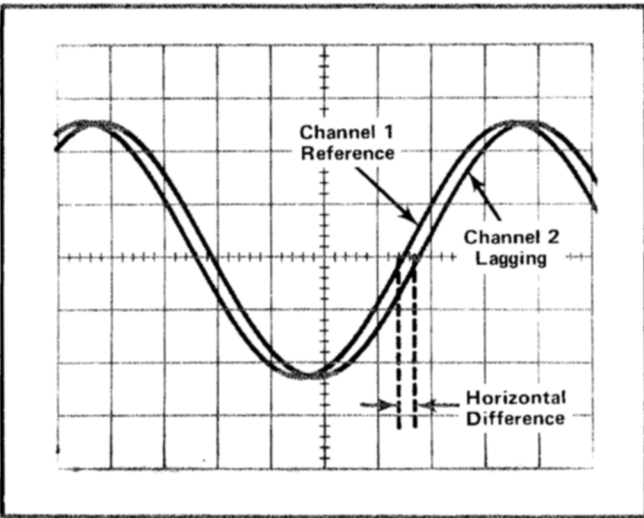
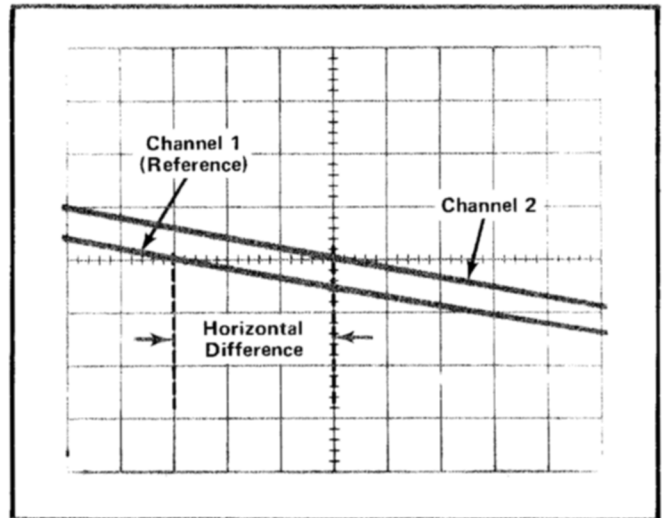

Fig. 2-4. Measuring phase difference between two signals.
Fig. 2-5. High resolution phase measurement using time-base magnifier.
8. Adjust the time-base Variable Time/Div control until one cycle of the reference signal occupies exactly eight horizontal divisions between the second and tenth vertical lines of the graticule (see Fig. 2-4). Each division of the graticule represents 45° of the cycle (360° ÷ 8 divisions = 45°/division). The sweep rate can now be stated in terms of degrees as 45°/division.
EXAMPLE: Assume a horizontal difference of 0.3 division with a sweep rate of 45°/division as shown in Fig. 2-4.
EXAMPLE: If the sweep rate is increased 10 times by the Magnifier, the magnified sweep rate is 45°/division ÷ 10 = 4.5°/division. Fig. 2-5 shows the same signals as used in Fig. 2-4 but with the Magnifier set to X10. With a horizontal difference of 3 divisions, the phase difference is: